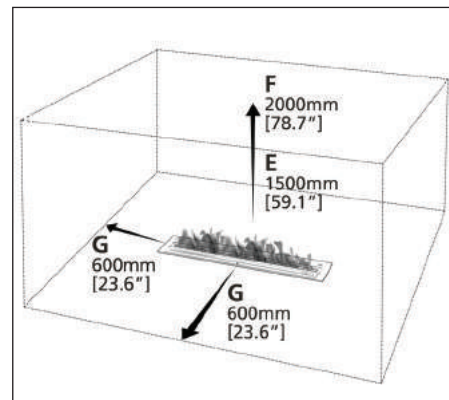

Fig. 4
B. POSICION DEL QUEMADO" SIN INTEGRAR EN UNA CHIMENEA O PARRILLA" (Fig.4)